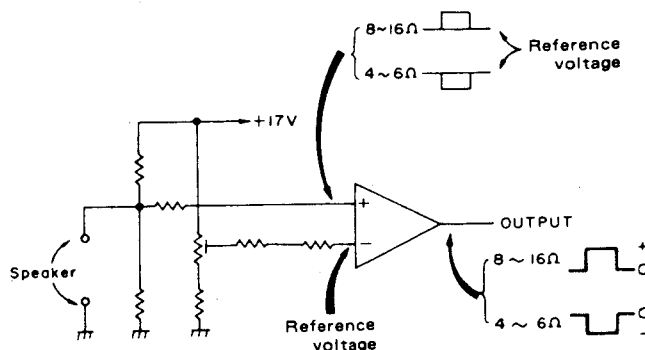

Fig. 5
While the relay (RLY302) is OFF, the speaker is in contact with the voltage comparing circuit. (Fig. 5) The reference voltage is applied to the negative input terminal of operation amplifier (IC301), and the voltage of positive input terminal varies depending on the speaker impedance as shown in Fig. 5. The alteration of voltage is directly related with the output of operation amplifier. Usually the unit is adjusted so that the output voltage is zero with 6Ω speaker connected, and the output voltage of operation amplifier becomes negative with 4Ω speaker connected, and the output voltage becomes positive with 8Ω speaker connected. Only when the voltage is negative, Q306 and RLY 302 turn ON, switching the secondary side tap voltage of power transformer to 28.7V.
- (3) Insert claw ⑦ of bottom board into claw hole ⑦ of rear panel. [See Fig. 5.]
- (4) Secure it with 6 setscrews.
[Fig. 5]